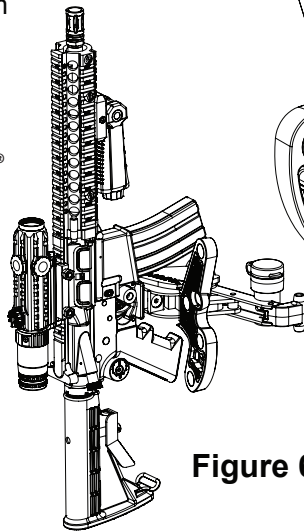

Figure 6
1. In the open position, place your firearm into the grip pad as shown (Figure 6)